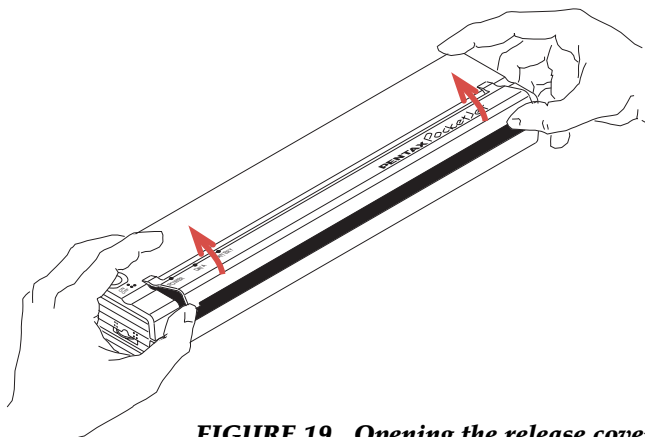

FIGURE 19. *Opening the release cover.*
- 1 Open the release cover. See Figure 19.